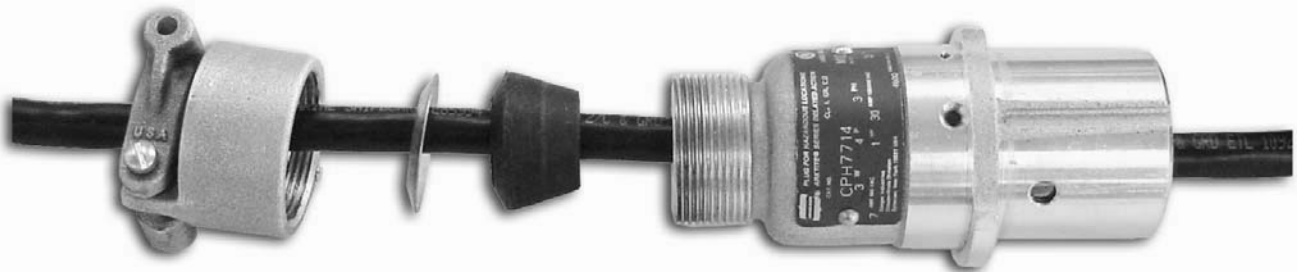

Figure 4
- Slide cord grip assembly, compression washer, rubber grommet and plug shell onto the power cord as shown in Figure 4.
- Cord Grip Assembly** - Refer to Figure 4.